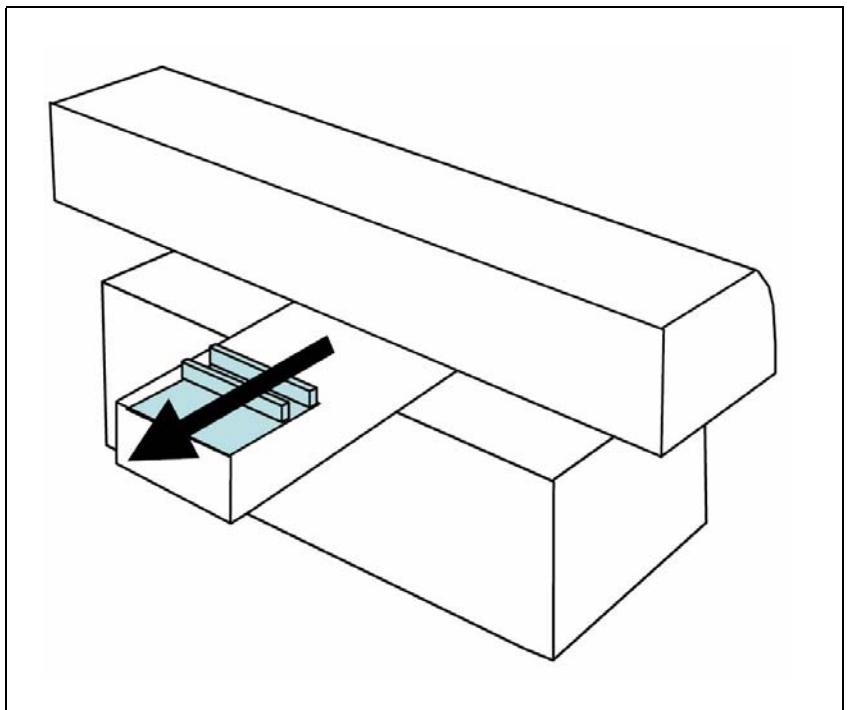

Figure 2-28. T conveyor pulled by hand towards rear mechanical stop.
1. Open the conveyor hood lid and pull the T conveyor by hand to the rear mechanical stop. Hold it there and mark its position, see Figure 2-28 for details.